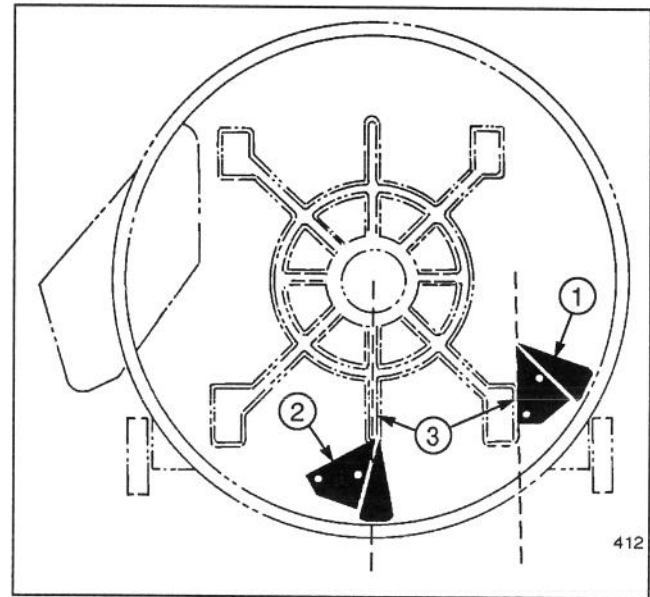

Figure 5
1. Position first rear kicker on underside of mower deck so flat edge is aligned with embossed surface of deck and bent edge is firmly against mower deck wall as shown in Figure 5.
3. Position a kicker in second rear kicker position so point of kicker aligns with embossed surface of mower deck and bent edge is firmly against mower deck wall as shown in Figure 5.